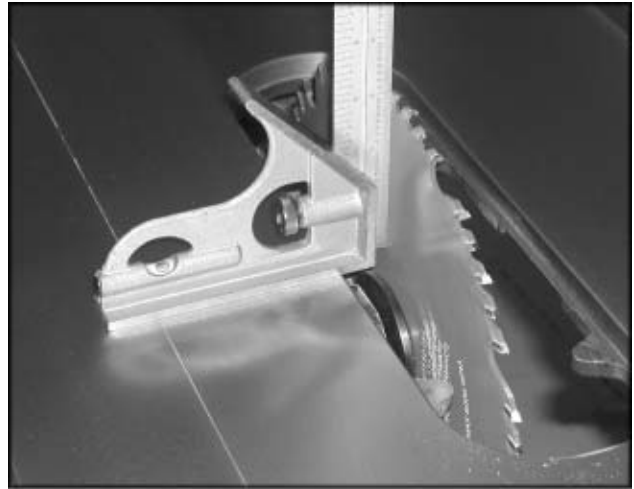

Fig. 31
4. Place a square on the table and check to see that the blade is at a 90° angle to the table, see Figure 31. Make sure square is not touching a blade tooth.